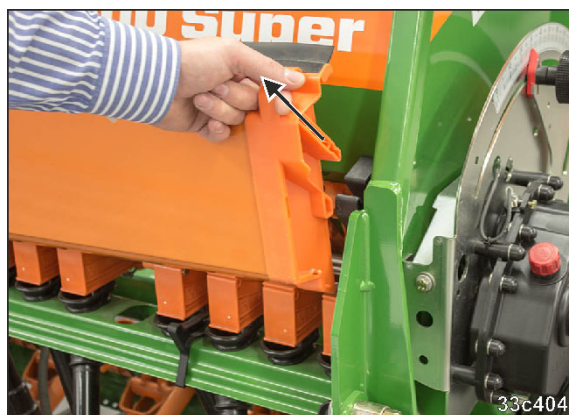

Fig. 135
1. Pull the calibration trays (Fig. 135) out of the brackets.